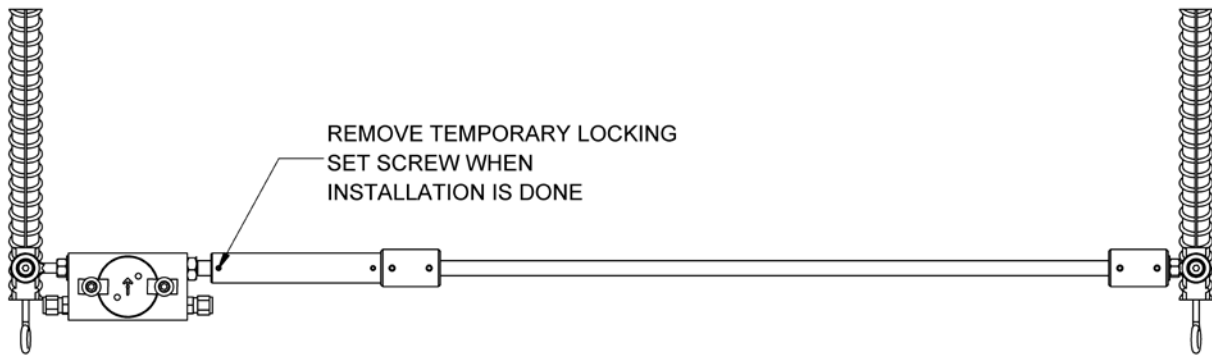

FIGURE 2-6 REMOVE LOCKING SET SCREW
- 12 Remove the nylon locking set screw to unlock the displacement sensor. Refer to Figure 2-6.